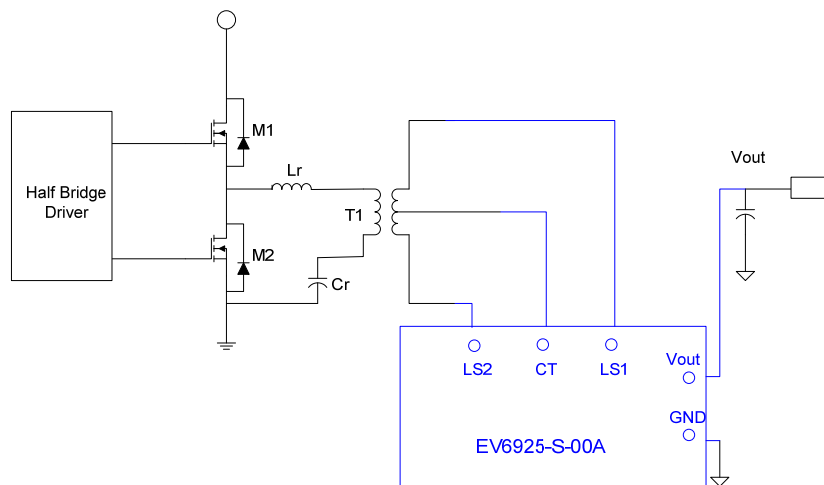

Figure 4: How to connect the EV6925-S-00A
2. Connect the center-tap and other two secondary windings of transformer as the Fig.4 shows.
3. Connect the Vout and GND pins on MP6925 demo board as the Fig. 4 shows.